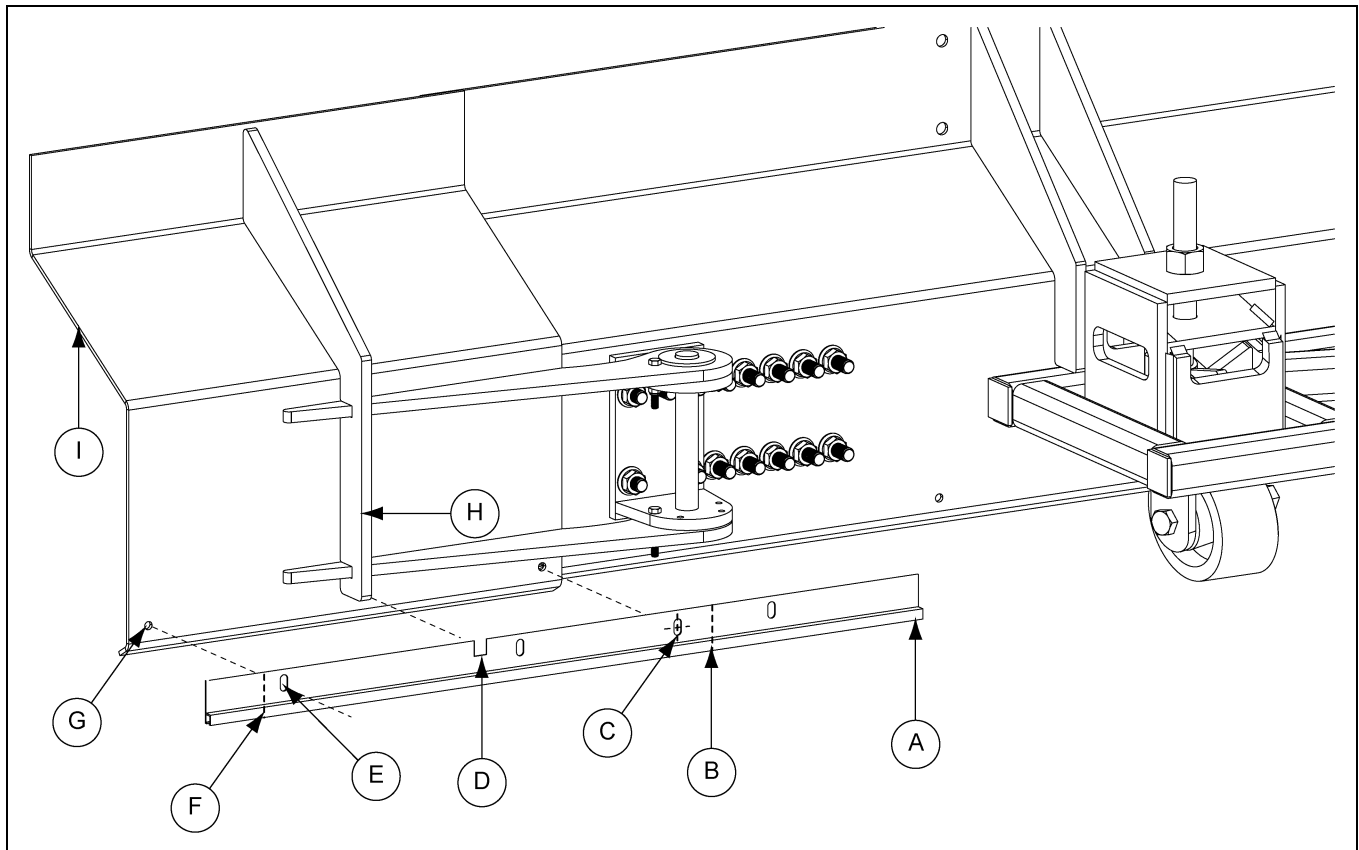

Figure 4U
1. Place a brush holder (A) to the frame of the plow (I). (See Figure 4U.)
2. Align brush holder hole (E) with plow frame hole (G) and scribe or mark each outer edge (B and F) of the plow frame. Transfer these marks to the brush holder (A).
4. Cut a notch (D) in brush holder to fit around plow brace (H) on the plow.
6. Using a scribe or marker, place a reference mark (C) from the front side of plow through hole onto brush holder. Drill out this reference mark (C) on brush holder (A).